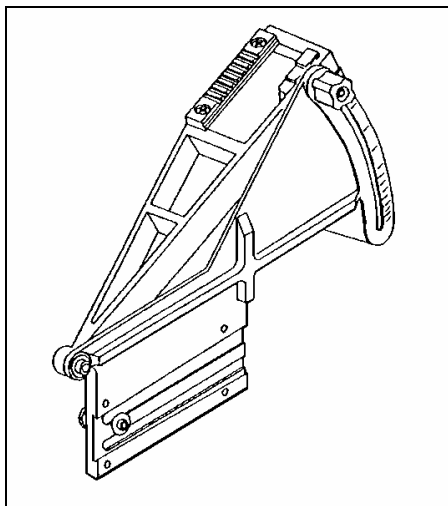

Figure G-12. MK 19 bracket.
e. **Mounting and Dismounting Procedures.** The HWTS is mounted on the MK 19 with a mounting bracket (Figure G-12). See TM 11-5855-312-10 for details.